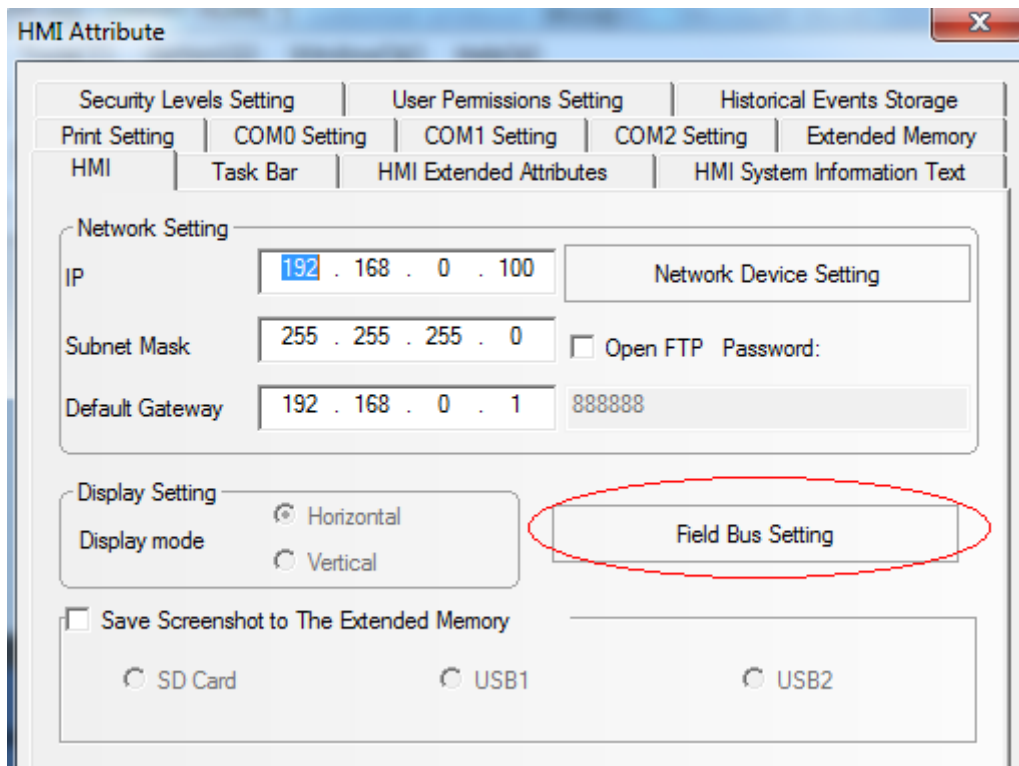

图 3
1. Open the attribute window of HMI as shown in Fig.3.